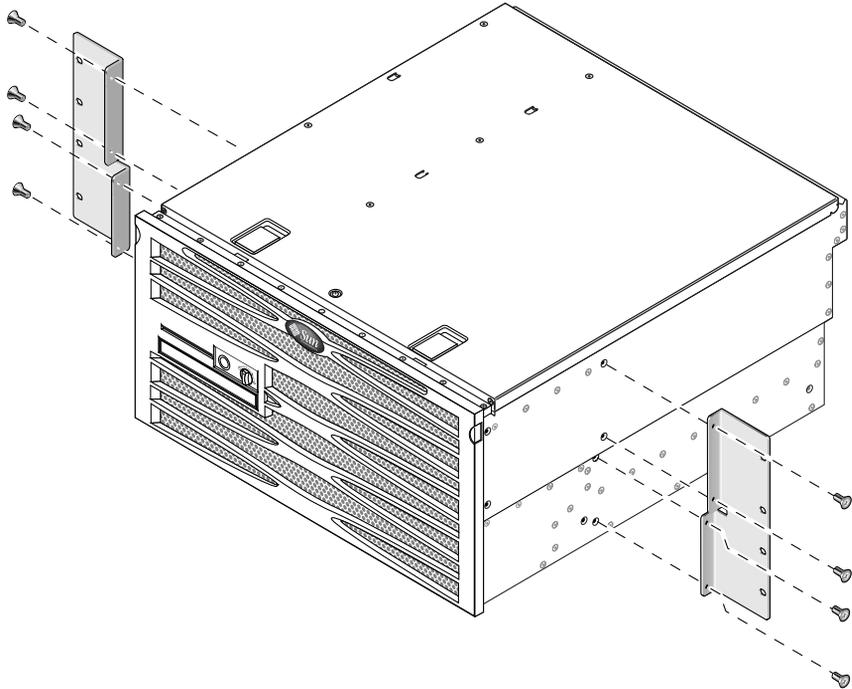

FIGURE 3-22 Securing the Side Brackets to the Side of the Server
2. Using eight of the M5 × 8 mm panhead Phillips screws (four for each side bracket), secure the side brackets to the sides of the server (FIGURE 3-22).